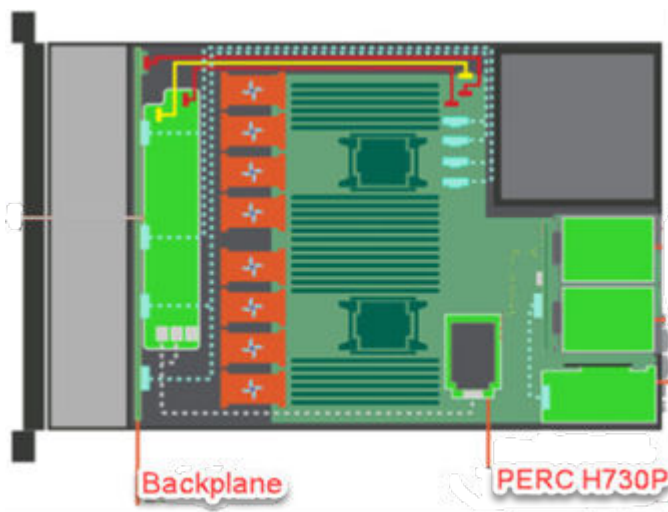
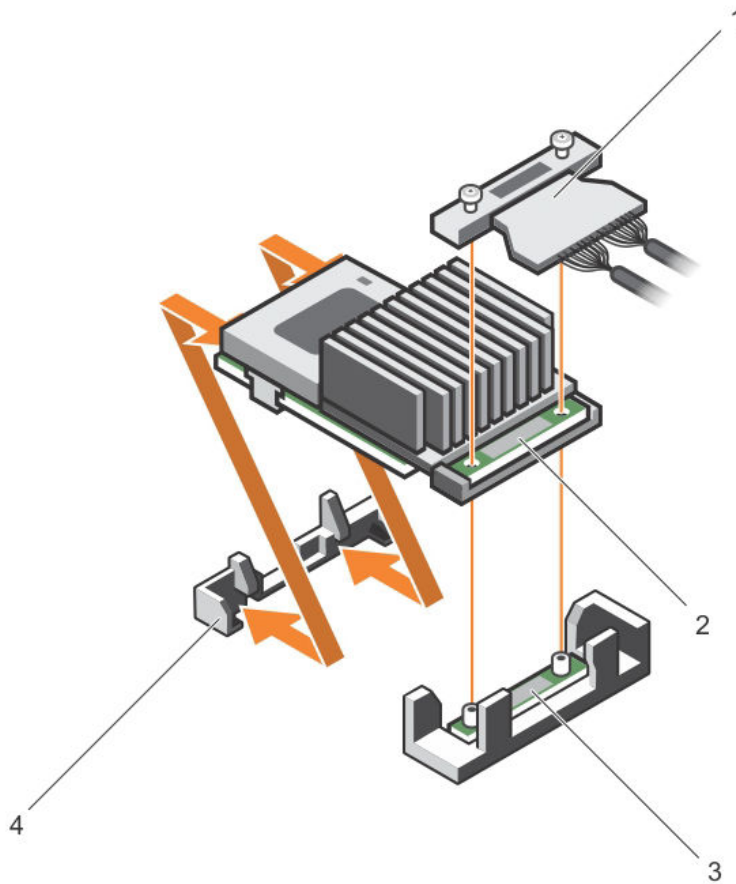

Figure 37: PERC H730P card location
Figure 39: Removing and installing the PERC 9 mini monolithic card
2. Open the server lid and locate the PERC H730P card located in the rear of motherboard. See Figure 37: PERC H730P card location on page 136 or refer to the label of the server motherboard on inside of the server lid and refer to figure Figure 39: Removing and installing the PERC 9 mini monolithic card on page 139 below.